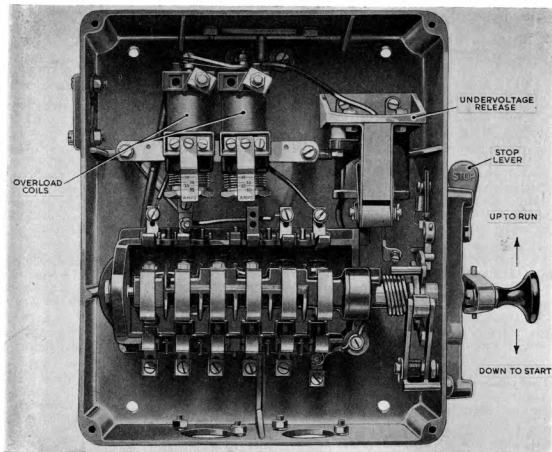

Fig. 46. Starter unit Type 13 (R.V.462C)
- (1) Press and hold down the handle at the side of starter unit Type 13 (fig. 46). The turning gear AC motor will start to turn and will quickly gather speed. As soon as the normal running speed is reached, lift the handle smartly to the RUN position and release it. Unless the upward movement is completed quickly, the contactors will not close, the motor will lose speed, and it will be necessary to repeat the starting drill.
- (2) Close the cabin door to complete the door interlock circuit.
- (3) Press the push button on the outside of the container to complete the contactor circuit.
- (4) After a few seconds, the aerial turntable should start to turn and then lock in position ready for control from the operations vehicle.